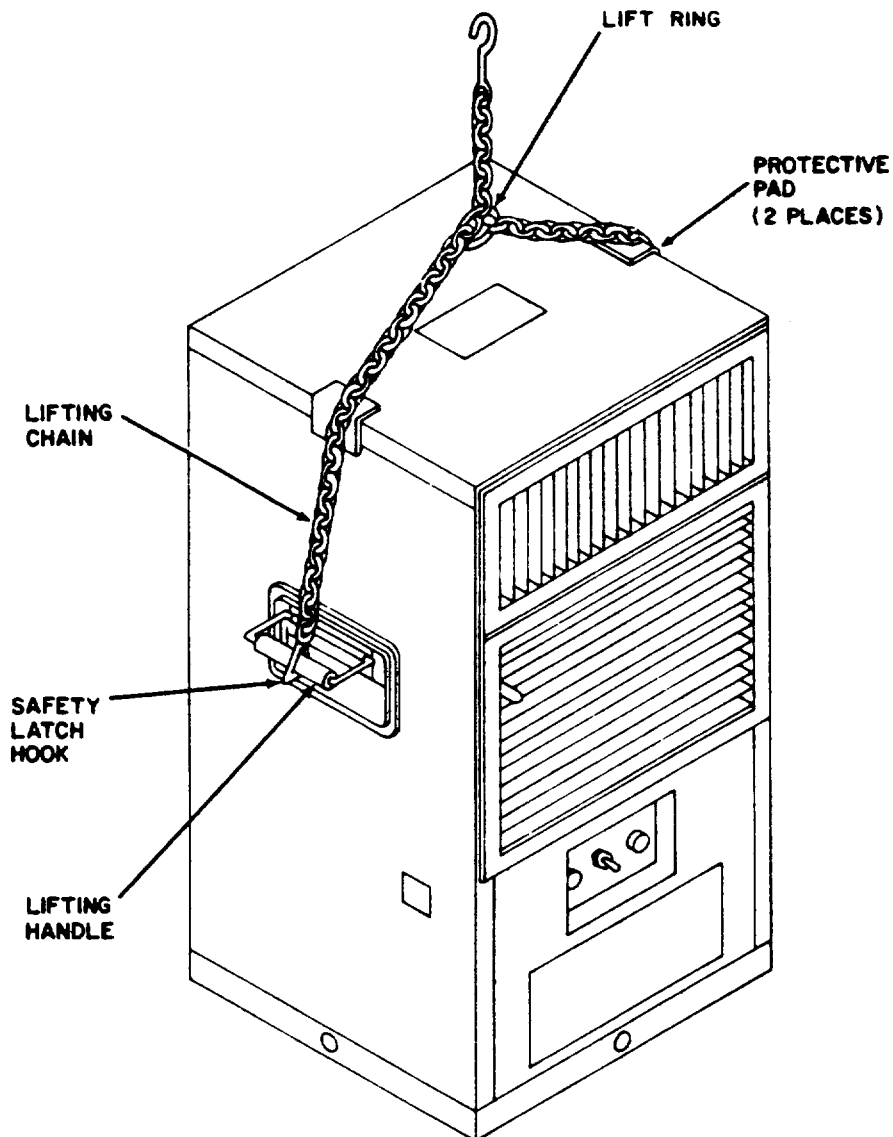

Figure 4-4. Lifting Using Slings.
- (1) Lift air conditioner to top of the mounting brackets. Each side has one lifting handle.
- (2) Use lifting sling if possible. See Figure 4-4.